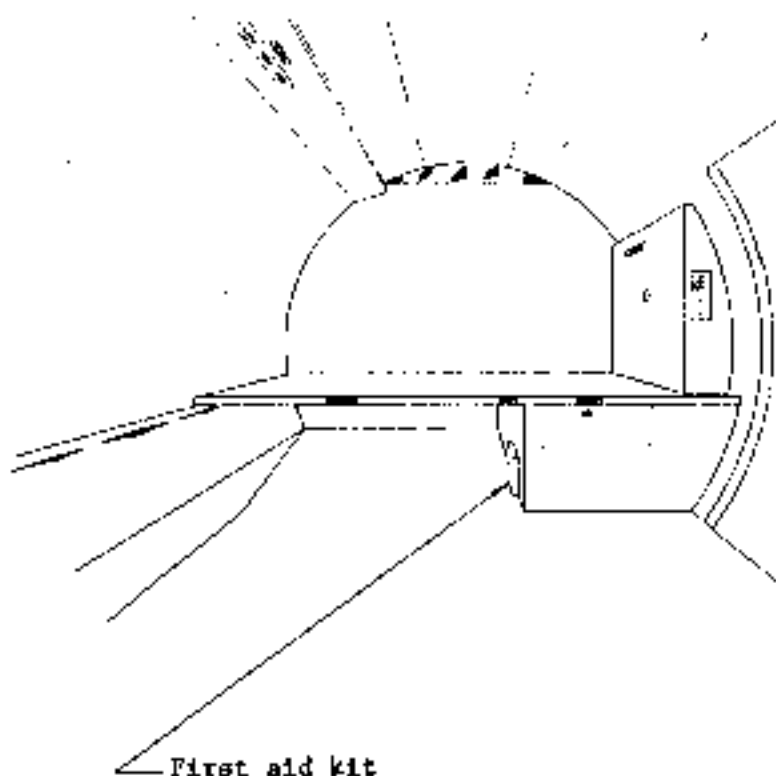

Fig. 12-4 First aid kit
4. FIRST AID KIT (See Fig. 12-4)